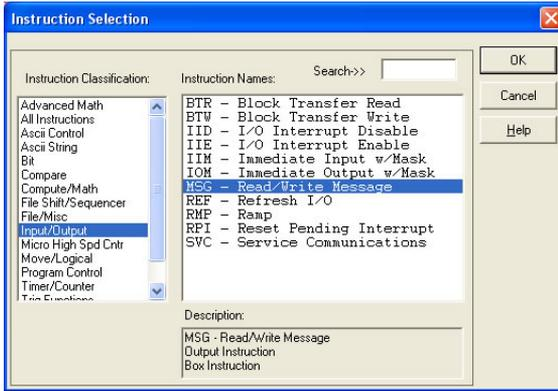

Figure 116: MSG Instruction Selection
- d) Select the "MSG" instruction from the "Input/Output" classification, then click OK. Refer to Figure 116.